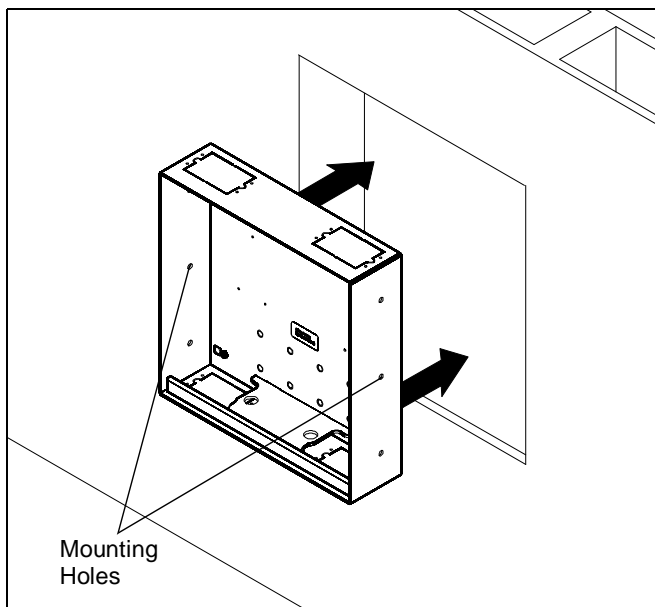

Figure 3
4. Center in-wall box in opening and insert into opening. Align front of box with front face of wall. (See Figure 3)
5. Drill six 3/16" diameter pilot holes in studs at mounting holes. (See Figure 3)
6. Attach the in-wall box using six M7 x 40mm Allen head connector screws (C) into pilot holes using an M4 Allen head drill bit (E).